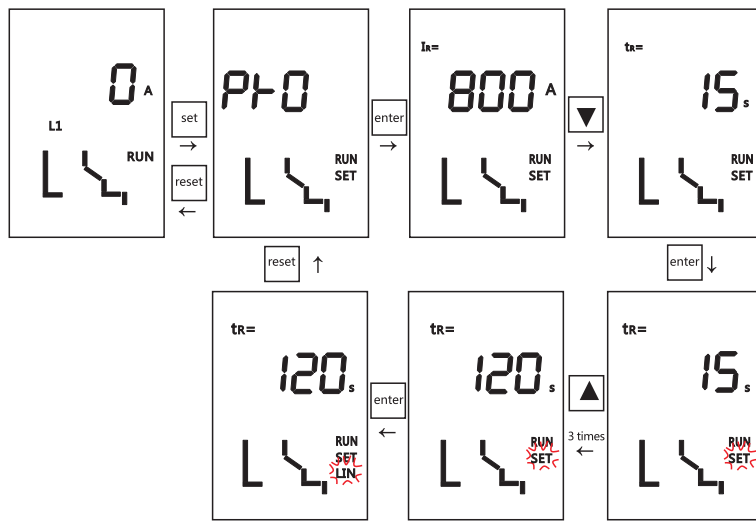
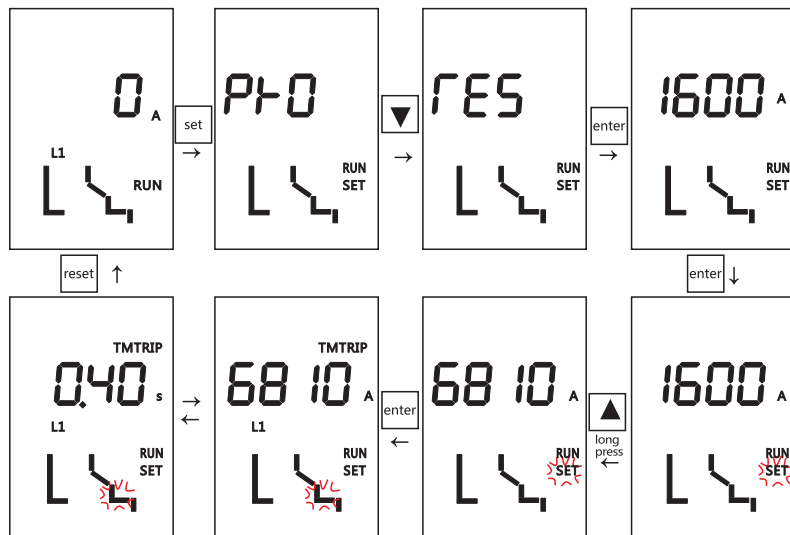
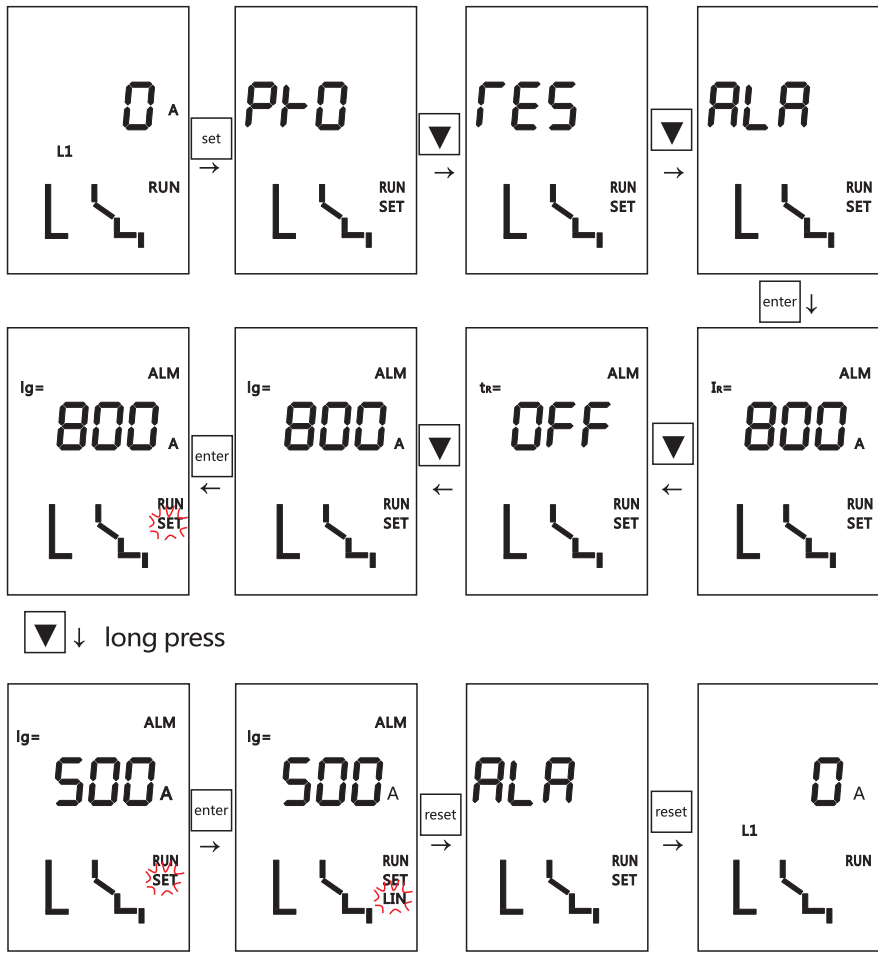

Figure 62. Modifying the long delay time value
Figure 63. Software simulation short delay release test
Figure 64. Setting the ground alarm current value threshold
(2) Setting status: The setting status may be entered by pressing the "Set" button in the default interface. In the setting status, the current protection parameters may be queried and modified, the software simulation test release may be performed, and the overload pre-alarm, grounding alarm threshold and delay time be queried and set. In the setting status, the "SET" indicator lights up or flashes. When it flashes, data may be added or subtracted by pressing the "▲" or "▼" button. Press "ENTER" to store data. For examples, see Figure 62, Figure 63 and Figure 64.